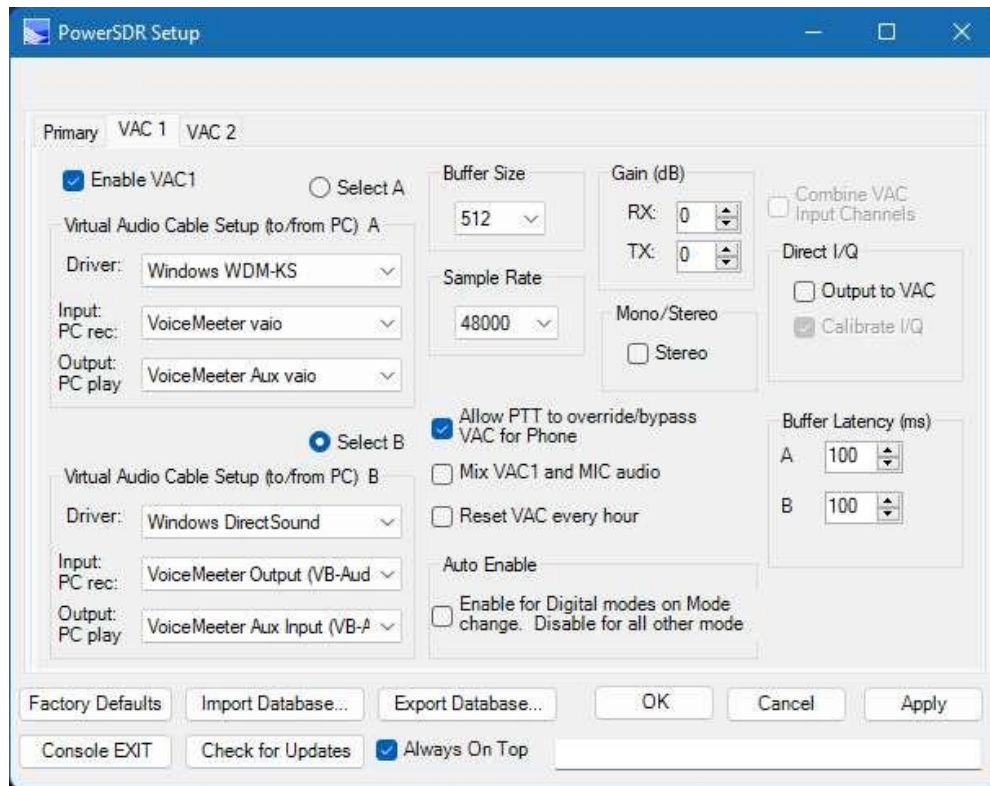

Figure 45: Setup -> Audio -> VAC1
2. In PowerSDR open the **Setup-> Audio-> VAC1** (see Figure 45 below). Check **Enable VAC1**, Select a *Virtual Cable (like **VoiceMeeter Output**)* as the **Input**, and a *Virtual Cable (like **VoiceMeeter Aux input**)* as the **Output**.